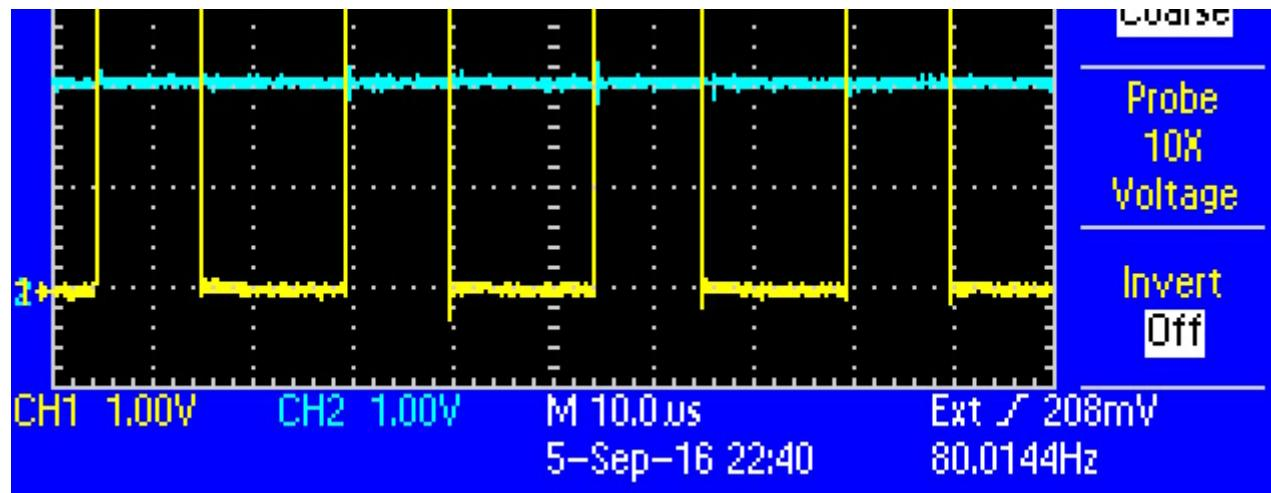

Figure 3: (left) PULSE output (yellow) (right) PWM output (blue) and corresponding analog voltage (yellow)
- 1. Time pulse (PULSE)** The yellow pulse on the figures above is the primary output of the system. The length thereof is proportional to the height . This time is then converted into other signals . (Yellow graph in Figure 3 left)
- 2. Square wave (PWM)** Another output is a PWM that has a duty cycle proportional to height . A duty cycle of 100% corresponds to the ball at the top of the tube. (Yellow graph in Figure 3 right)
- 3. Analog Voltage (ANLG)** The PWM is also filtered to generate an analog voltage. A voltage of 5 V corresponds to the ball at the top of the tube. (Blue graph in Figure 3 right)